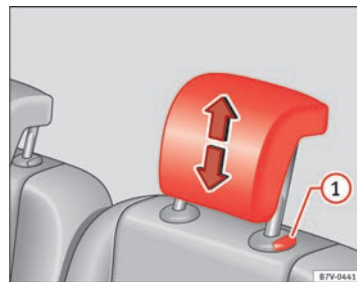

Fig. 85 Adjust the head restraints in the second or third row of seats.
- Raise the head restraint in the direction of the arrow or lower it ⇒ fig. 84 or ⇒ fig. 85 ① with the button pressed ⇒ .